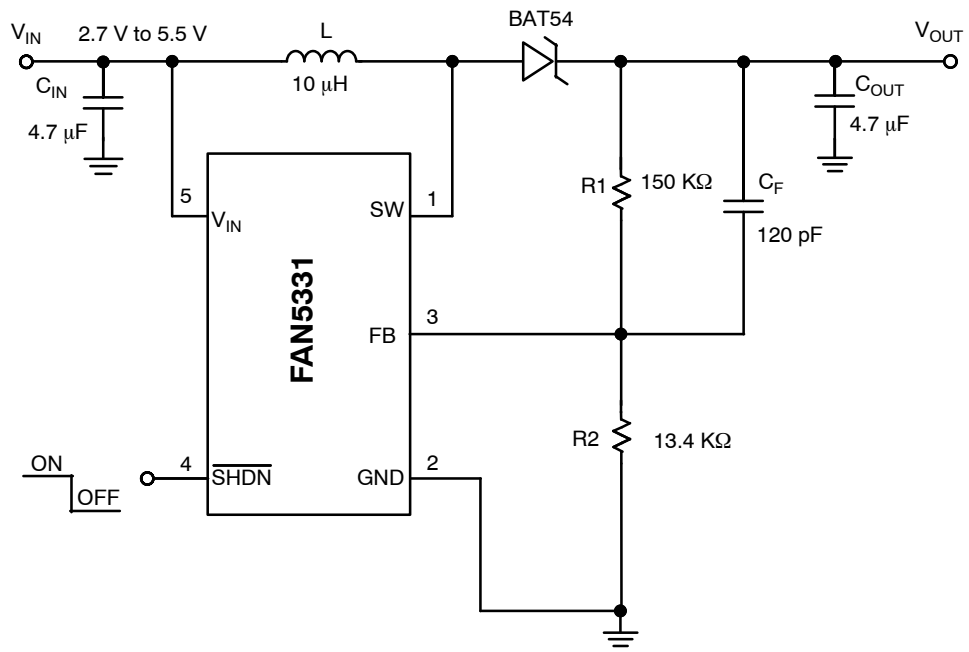

Figure 2. Test Circuit
**ELECTRICAL CHARACTERISTICS** Unless otherwise noted, VIN = 3.6 V, TA = –40°C to +85°C, Typical values are at TA = 25°C, Test Circuit, Figure 2.
TA = 25°C, Test Circuit Figure 2, unless otherwise noted.